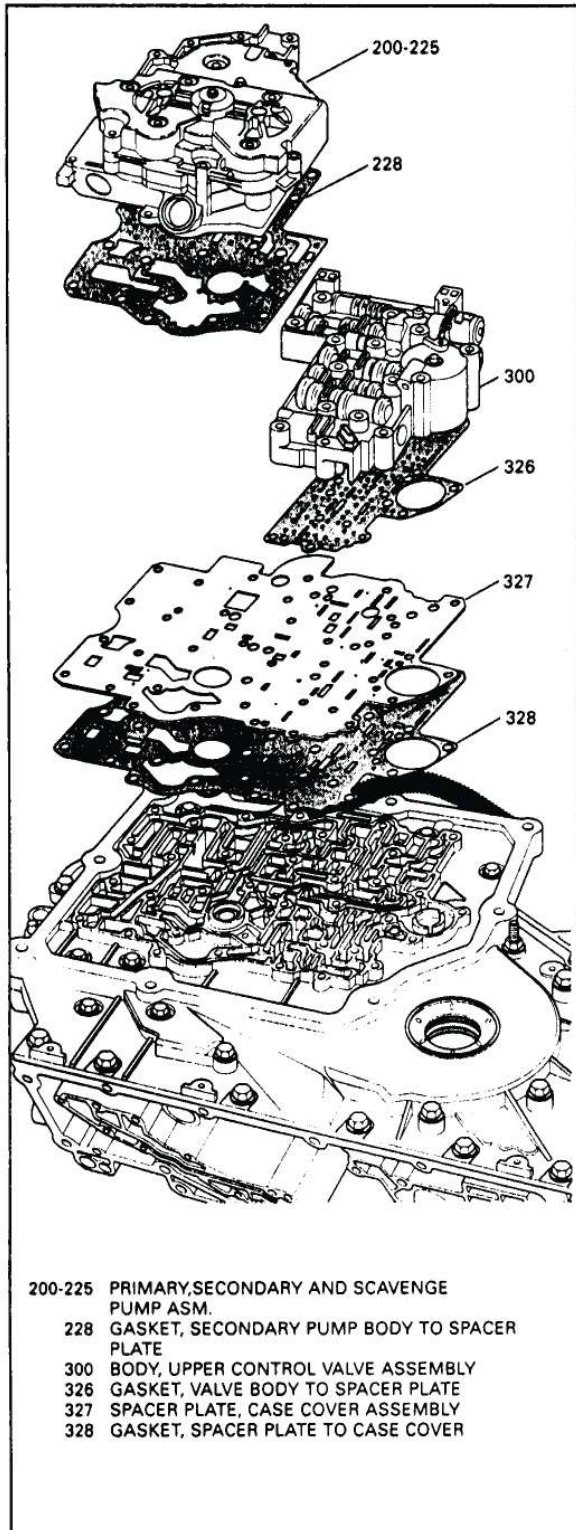

Figure 112
4. Install upper valve body spacer plate over the guide pins (See Figure 112).
5. Install new upper valve body to spacer plate gasket (326) over dowel pins. (See Figure 112).
2. Install new gasket over guide pins and onto spacer plate (Figure 112).
3. Install primary, secondary and the scavenge pump assemblies over the guide pins (See Figure 112).